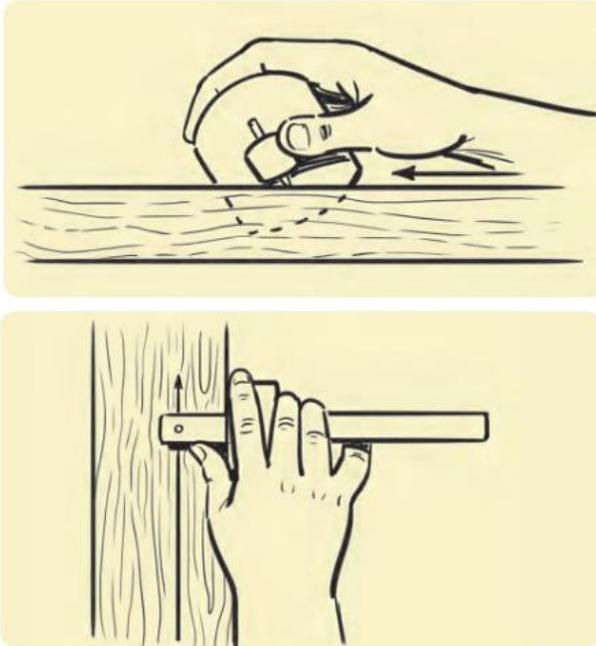

Figure 3.25 Positioning the marking gauge
- 2 Press the stock against the timber firmly and **tilt** the gauge over the spur then drag or push forward with the thumb as shown in Figure 3.25.